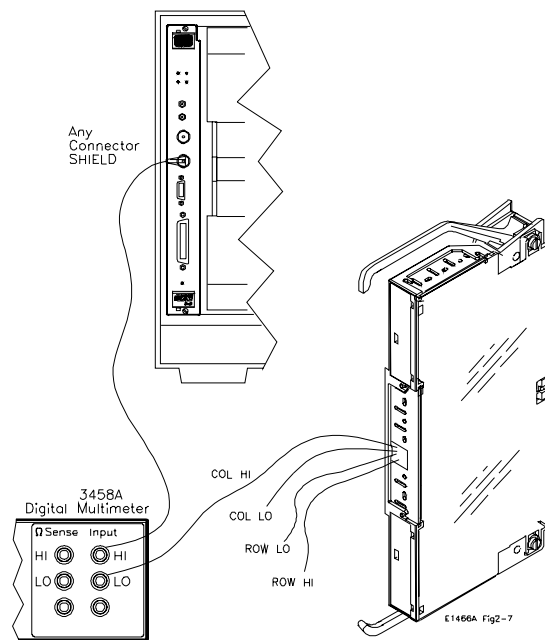

Figure 2-7. HI to Chassis Isolation Test Connections
- Make hardware connections as shown in Figure 2-7